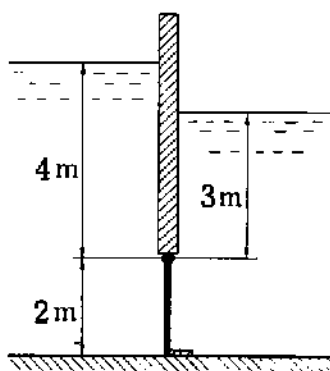

Fig. 3.26
7. A water gate 2 m high and 1 m wide is shown in Fig. 3.26. What is the force acting on the lower stay?